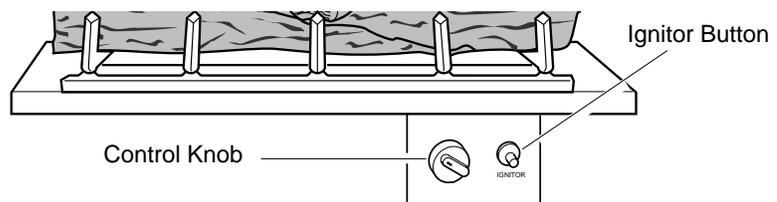

Figure 27 - Control Knob and Ignitor Button Location
4. Wait five (5) minutes to clear out any gas. Then smell for gas, including near the floor. If you smell gas, STOP! Follow “B” in the safety information above. If you don’t smell gas, go to the next step.
5. Slightly depress and turn control knob counterclockwise  to the PILOT position. Press in control knob for five (5) seconds (see Figure 27, page 24).